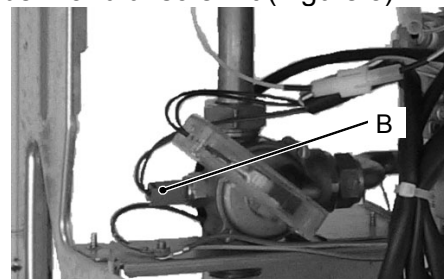

Figure 3
- 3) Remove the electric connector of the NTC probe B and unscrew it (Figure 3).